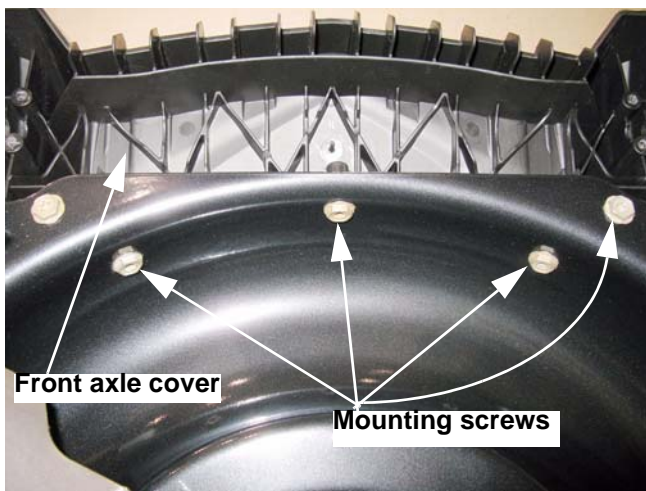

Figure 4.33
2. Remove the 5 screws that hold the front axle cover to the mower deck using a 1/2" wrench or a T-40 Torx driver. See Figure 4.33.